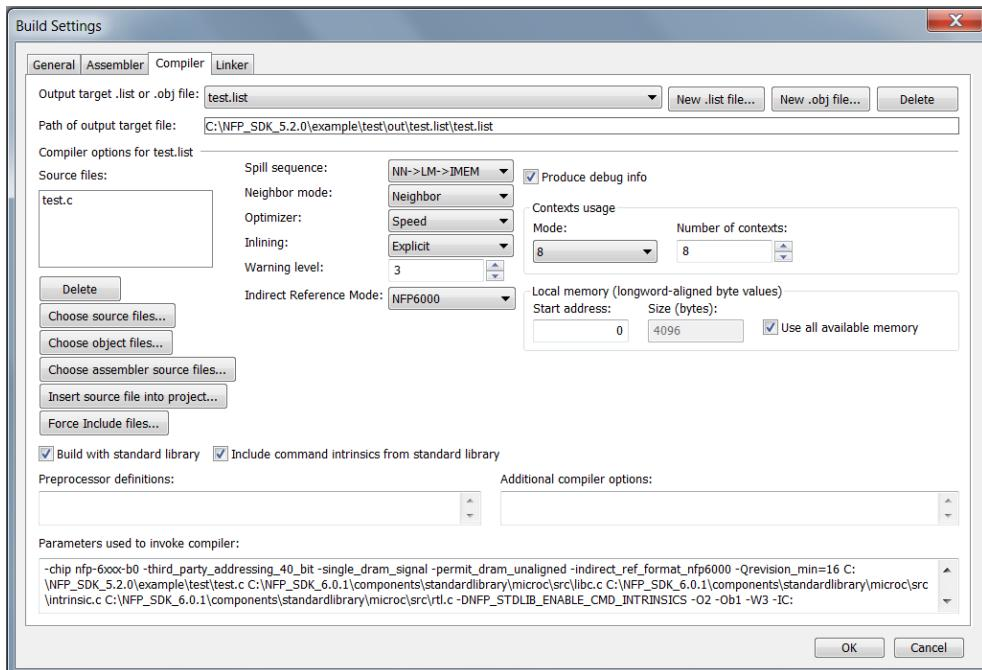

Figure 2.11. Build Settings Compiler tab
2. Click the **Compiler** tab (see Figure 2.11).